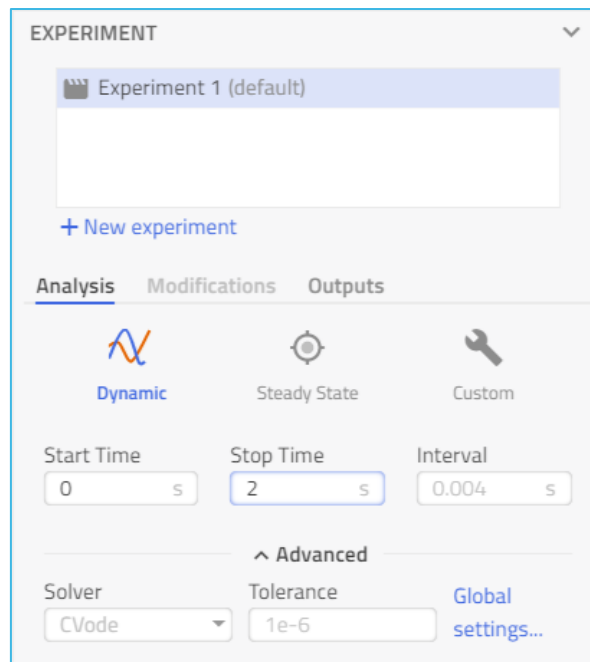

Figure 14 Simulation settings browser
10. Set the simulation stop time to 2 seconds as shown in **Figure 14**. This will update the default experiment *Experiment 1*.